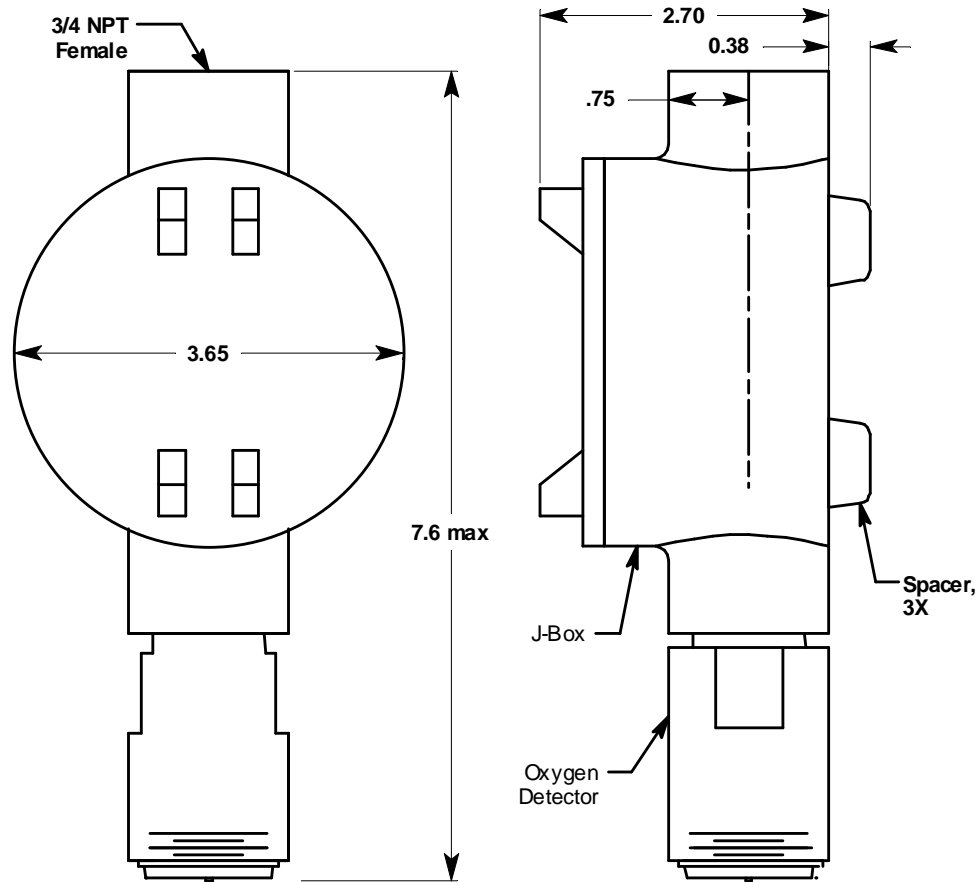

Figure 1: Mounting the Oxygen Detector
2. At the mounting site you select, hang or mount the junction box with the detector facing down (see Figure 1).